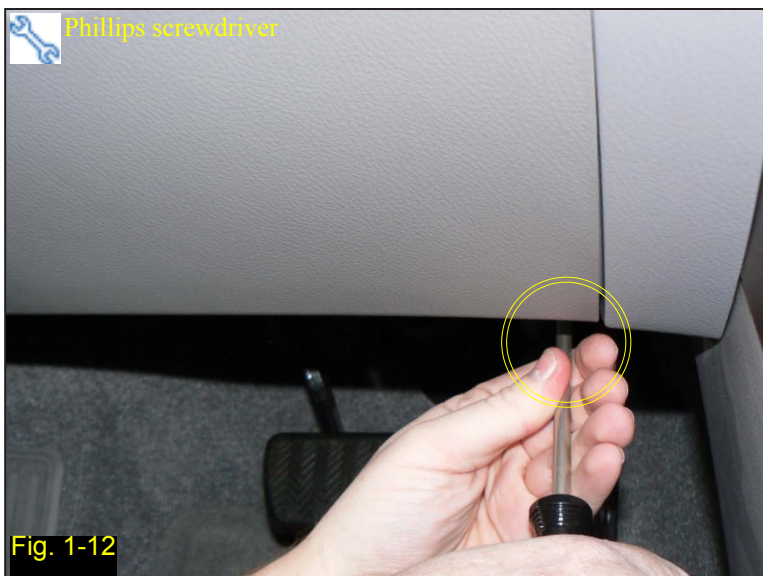

Fig. 1-12
1. Use a Phillips screwdriver to remove the lower right screw on the lower knee panel (Fig. 1-12).